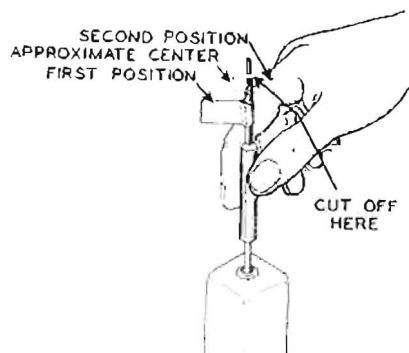

Figure 14
- () Referring to Figure 14, cut off the tip of the short end of the plastic alignment tool. This end of the alignment tool can be used for the adjustment of the Level, Stereo BAL and SEP, and FM Squelch controls.
NOTE: In the following steps it is very important that the slug of the transformer not be turned too far, otherwise, instrument alignment may be required to obtain proper operation of the Tuner. To guard against this condition, a flag (piece of tape) should be placed on the alignment tool as shown in Figure 14 for use in the following alignment procedure.